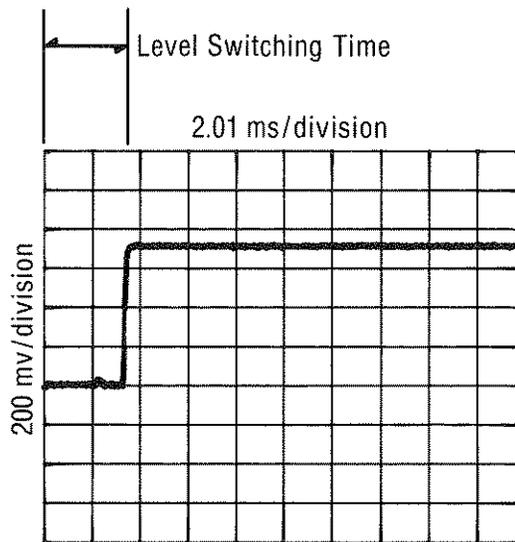

Figure 4-8. Output Level Switching Time Measurement Waveform
5. Run the program and measure the switching time by observing the signal on the oscilloscope display. Refer to Figure 4-8.